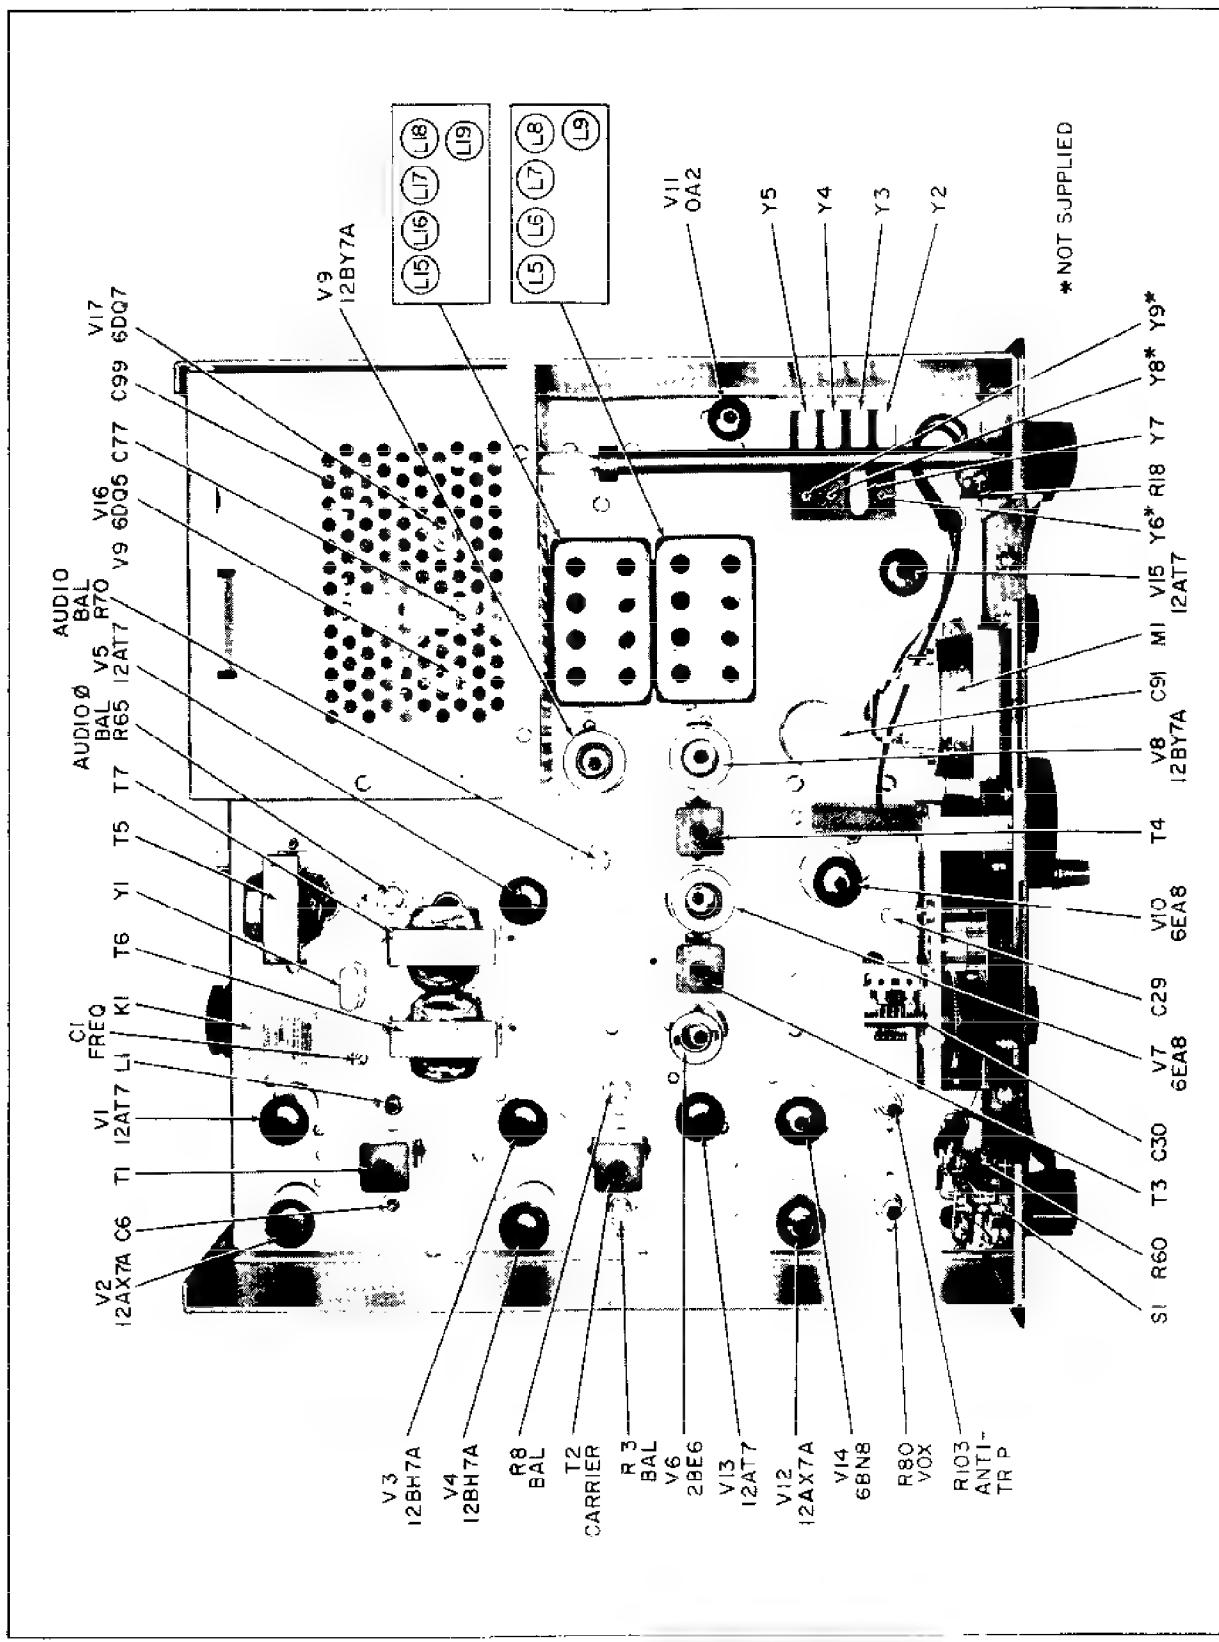
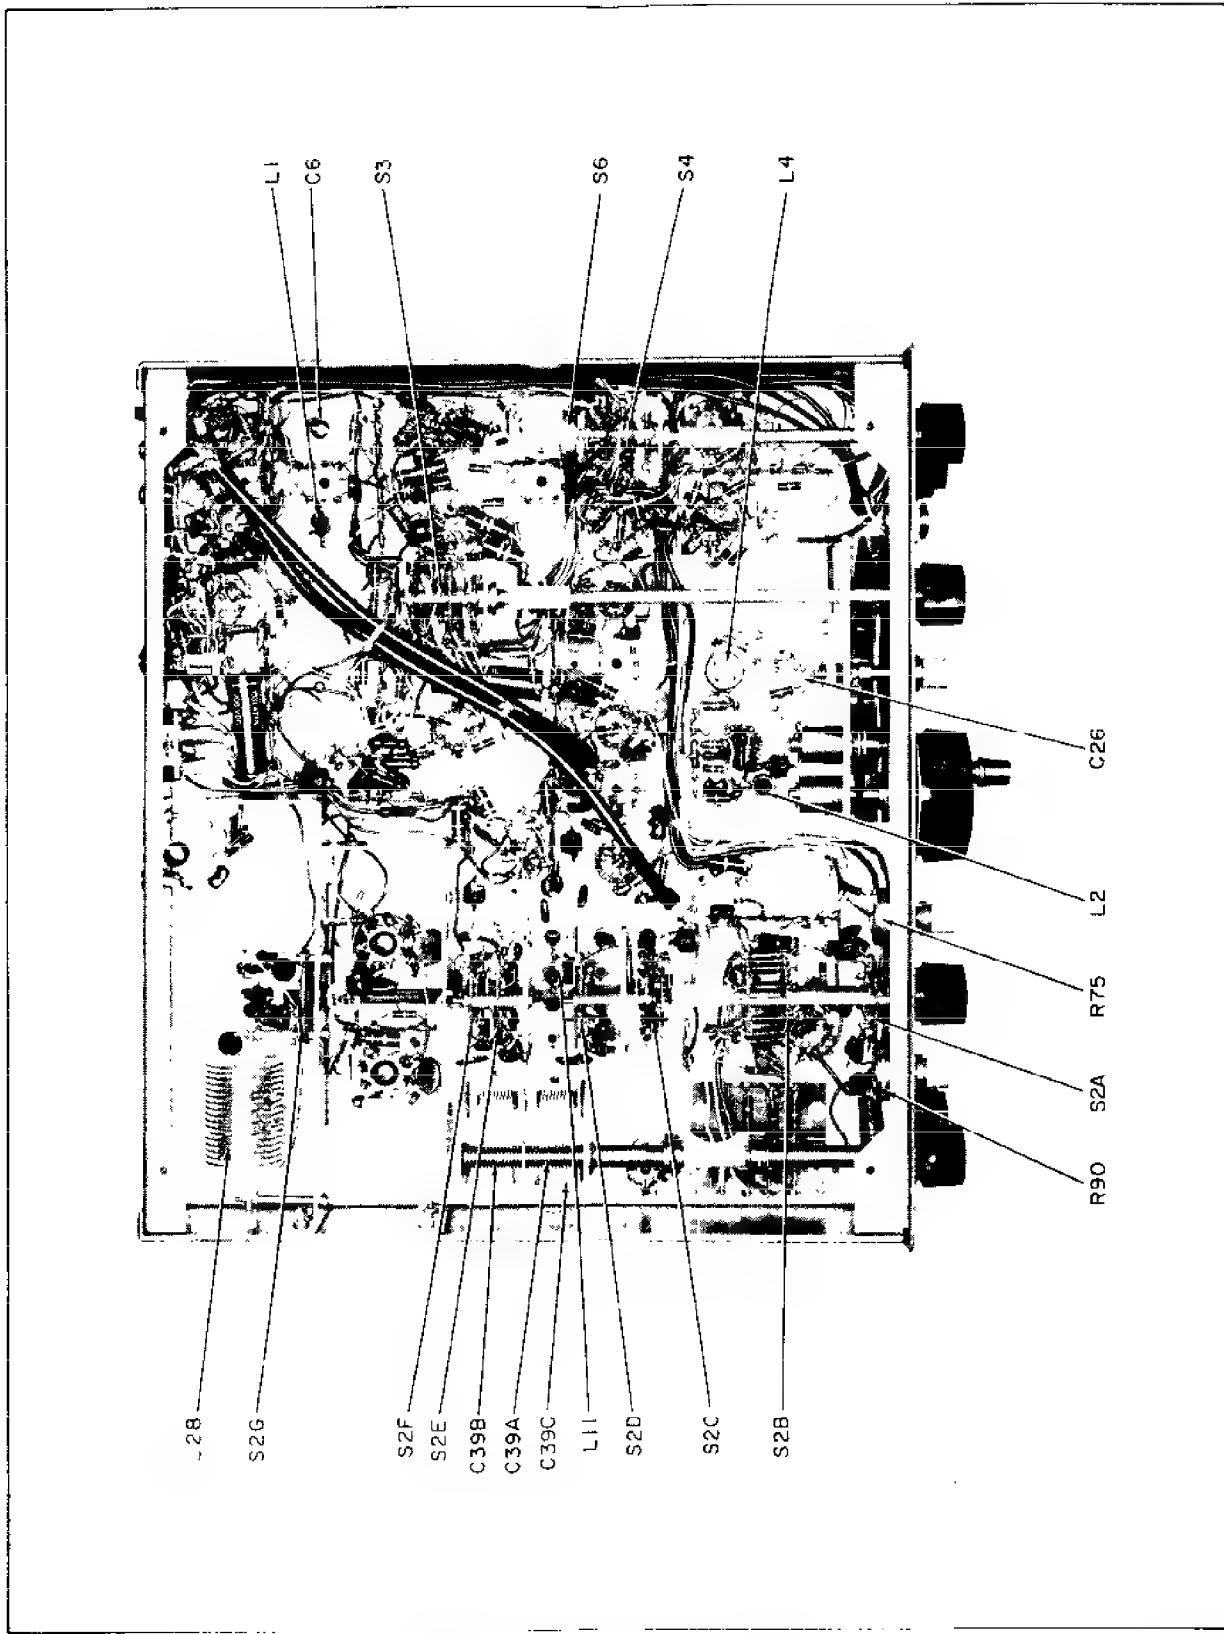

Figure 14. Top Chassis View Showing Component Locations
Figure 15. Bottom Chassis View, Showing Components
13. Carefully adjust warping trimmer C1 in the HT-44 for zero beat. This trimmer is located near the top, left, rear corner of the chassis. (See figure 14.)
Do not make any adjustments unless the operation of this transmitter is fully understood and adequate test equipment is available. Refer to figures 14 and 15, the top and bottom views of the transmitter, for the locations of all adjustments.
3. 10-Meter Alignment. - Tune the Signal Generator to 28.0 MC. Set the FINAL TUNING control to the low end of the 10-meter segment (approximately 8 on the inner scale) and the DRIVER TUNING control also to the low end of the 10-meter segment (approximately 8 on the inner scale). Increase the signal generator output level until a small indication is noted on the HT-44 RF output meter. Tune the FINAL TUNING control for maximum output indication. Adjust the cores of coils L5 and L15 (see figure 14 for location) for maximum output, reducing the signal generator output level as required to keep the meter reading at half-scale or less. Set the signal generator to 29.7 MC. Set the FINAL TUNING control to the high end of the 10-meter segment (approximately 9-1/2 on the inner scale) and set the DRIVER TUNING control to the high end of the 10-meter segment (approximately 9-1/2 on the inner scale). Adjust trimmer capacitor (C39C) located on the side of C39A (see figure 15) for maximum output while slightly rocking the DRIVER TUNING control. Return the signal generator to 28.0 MC and repeat the above alignment until tracking is accomplished. (NOTE: Trimmer C39C should not be readjusted on the other bands.)
4. 15-Meter Alignment. - Tune the signal generator to 21.0 MC and set the FINAL TUNING control to the low end of the 15-meter segment (approximately 7-1/2 on inner scale). Set the DRIVER TUNING to the low end of the 15-meter segment (approximately 7 on the inner scale). Increase the signal generator output level until a small indication is noted on the RF output meter and adjust the FINAL TUNING control for maximum output, reducing the signal generator output level as required to keep the meter at half-scale or less. Adjust the cores of coils L6 and L16 (see figure 14 for location) for maximum output, reducing the signal generator output as required to keep the meter at half-scale or less.
7. 6.5-MC Trap Adjustment. - While on the 40-meter band, set the signal generator to 7.0 MC and adjust the FINAL TUNING and DRIVER TUNING controls for maximum output. Without changing the FINAL TUNING or DRIVER TUNING, reset the signal generator to 6.5 MC and increase the signal generator output level until a small indication is noted on the RF output meter. Adjust the 6.5-MC trap core, L11 (see figure 15 for location) for minimum output, increasing the signal generator output as required. A slight readjustment of L8 may be required after this adjustment.
Proceed as follows: Set the CAL. ADJ. trimmer to mid-range (dot up). Set the OPERATION switch to CAL. Set the BAND SELECTOR to 3.5 MC (80-meter). Tune the receiver to 3.5 MC on the 100-KC marker signal (BFO off). Set the HT-44 TUNING CONTROL (dial) to the red 500 (3.5 MC). Carefully adjust trimmer C29 for zero beat (see figure 14 for location).
If the dial error progressively increases in the same direction with the high-frequency end running out more than 3000 CPS, at this end, both L4 and C29 should be adjusted. Proceed as follows: Set the TUNING dial to 4.0 MC (red 1000) and the Receiver to 4.0 MC. Adjust the slug of L4 (see figure 15 for location) to zero beat. Set the TUNING dial to 3.5 MC (red 500), the receiver to 3.5 MC, and adjust C29 for zero beat. Repeat the adjustments at 4.0 MC and 3.5 MC until both points are on frequency.
Remove V15 (12AT7) from its socket to disable the heterodyne oscillator signal. Connect the probe of the RF voltmeter to the grid of the Second Mixer (pin 2 of V8). Set the FUNCTION switch to CW and the OPERATION switch to MOX. Set the BAND SELECTOR to any 10-meter segment. Set the TUNING control dial to 250 and advance the RF LEVEL control until a small indication is noted on the RF voltmeter. Adjust the core of the VFO output coil (L2, See figure 15) for maximum reading. Set the TUNING control to 450 on the dial. Advance the RF LEVEL control until approximately 0.5 volt RMS is indicated on the RF voltmeter (HP 410 B or equal). Adjust top and bottom cores of IF transformers T3 and T4 for maximum voltmeter indication, keeping the level below 1 volt to prevent overload and false settings. After the transformers have been adjusted as described, increase the RF LEVEL control until 1 volt is indicated on the voltmeter. Tune the VFO (TUNING) across its range (0 to 500) while watching the voltmeter. The voltmeter should read between 0.8 and 1.0 volt over the entire range of the dial (0 to 500). After completion of this alignment, be certain to replace V15 (12AT7) in its socket.
Adjust the RF LEVEL control for about 60 volts RMS output (60 on the HT-44 RF output meter). Carefully tune the FINAL TUNING control and observe the plate current dip and the output voltage peak. If both occur at the same setting, the amplifier is neutralized. If both do not occur together, adjust the neutralizing capacitor, C77 (see figure 14), in small increments (1/4 to 1/2 turn) until neutralization is accomplished.
When the HT-44 is used as an independent transmitter/exciter, there is normally no need for adjustment of the carrier frequency trimmer C1 (see figure 14 for location). However, when the HT-44 is to be used in conjunction with an SX-117 receiver as a transceiver, the carrier frequency trimmer C1 must be set correctly. For this procedure, see Section VII, TRANSCEIVE (SLAVE) OPERATION.